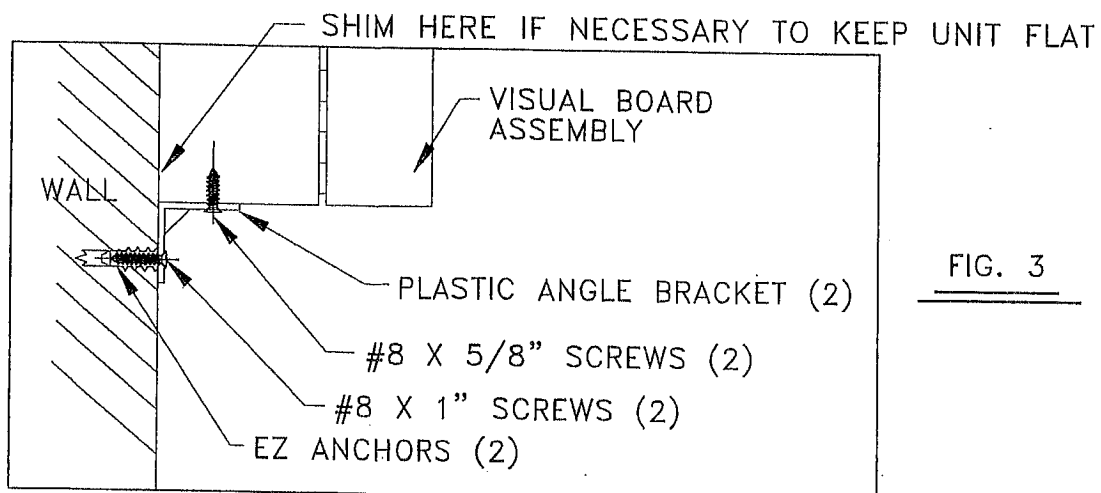

FIG. 3
12. ATTACH PLASTIC ANGLE BRACKETS TO THE BOTTOM OF THE VISUAL BOARD ASSEMBLY USING (2) #8 X 5/8" SCREWS (SEE FIG. 3)